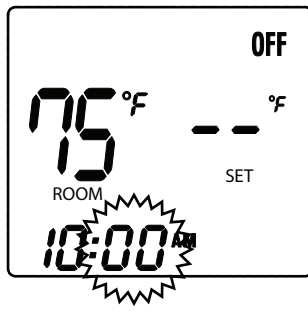

Fig. 9 Setting Minutes
3. After setting the desired hour, press and release the TIMER/TIME button again to set the minutes; the minute digits will begin blinking (Fig. 9)..